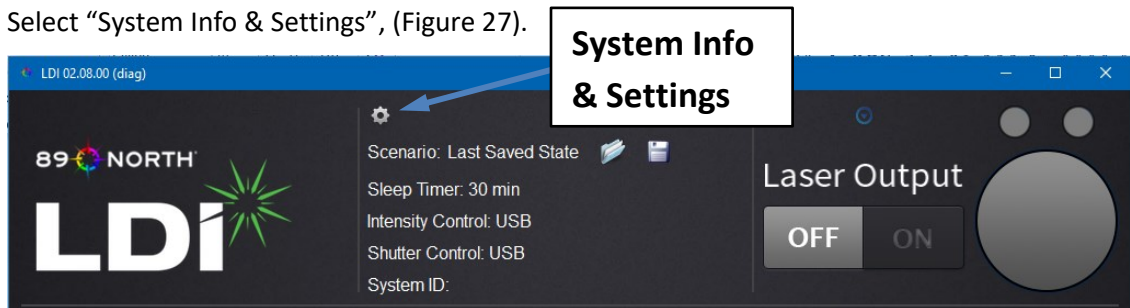

Figure 27: System Info & Settings
5. Select “System Info & Settings”, (Figure 27).